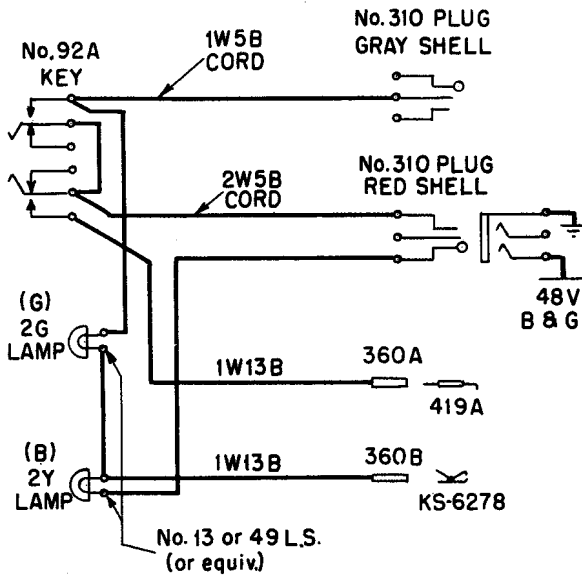

Fig. 1
**2.05** One Special Patching Cord, to be made up locally (see Fig. 1).
**2.06** One Special Patching Cord to be made up locally (see Fig. 1).
**3.01** Arrange the special patching cord as shown in Fig. 1.